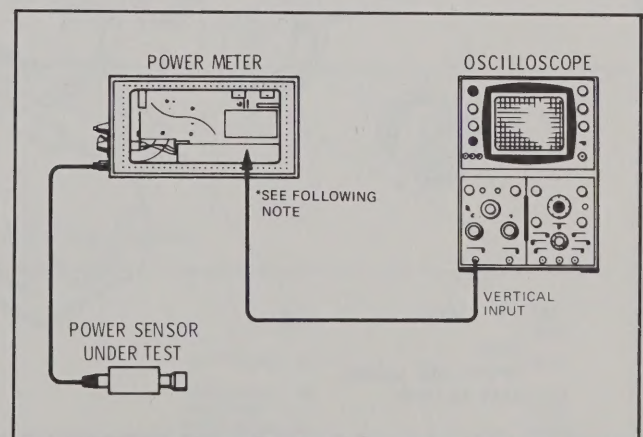

Figure 4. FET Balance Equipment Setup
34. Procedure. Connect the equipment as shown in Figure 4. Set the power meter range control to 3 μ W. Check the amplitude of the switching transients (spikes) on the oscilloscope display. If A2C2 or A2C7 is in the circuit, vary its value between 1 and 10 pF until the balance point (minimum spike amplitude) is found. If the balance point is not reached, remove the capacitor and follow the same procedure using the other capacitor location (A2C2 or A2C7). When the